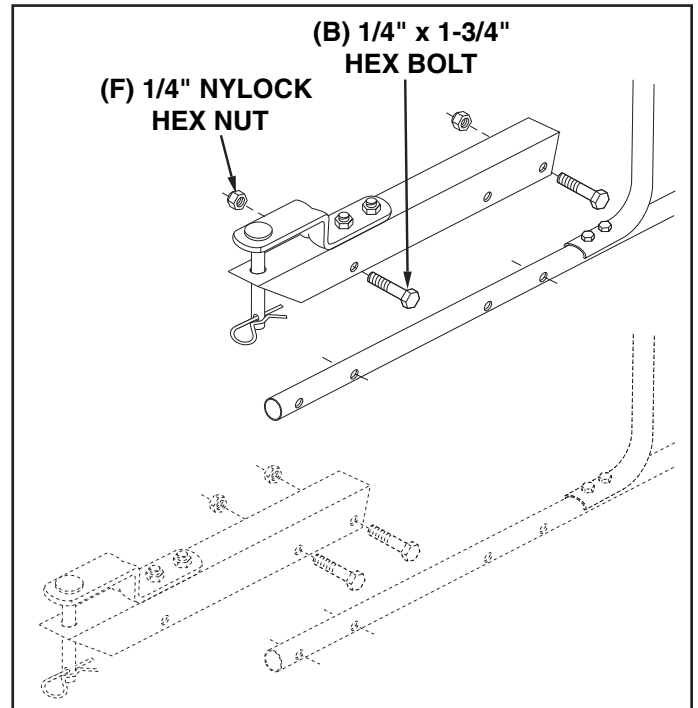

FIGURE 16
27. For most vehicles, assemble the hitch extension bracket to the holes in the hitch tube shown at the **top** of figure 16. Use two 1/4" x 1-3/4" hex bolts (B) and 1/4" nylock hex nuts (F) tightened only finger tight. Attach the spreader hitch to your vehicle hitch. Check for interference with the spreader directly behind and out to both sides of the vehicle. Lift the spreader at each position to make sure there is no interference with the spreader's flow control. If there is interference with the rear of the vehicle, assemble the hitch extension bracket as shown at the **bottom** of figure 16. **Tighten** the bolts and nuts when finished.